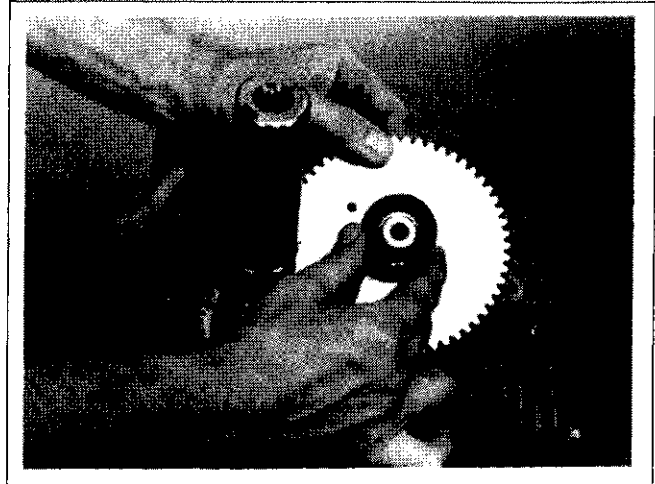

Figure 9-61. Removing Camshafts (Note Shims).
1. Remove the camshaft and shims. See Figure 9-61.